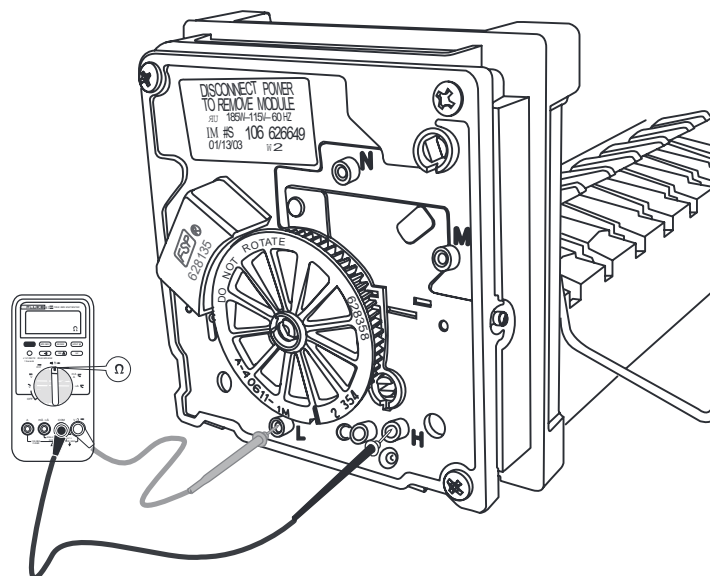

Figure 10-15. —Measuring mold heater resistance.
- Set the multimeter to AC voltage function, then insert one probe into point N and the other into point M as Figure 10-15 illustrates.